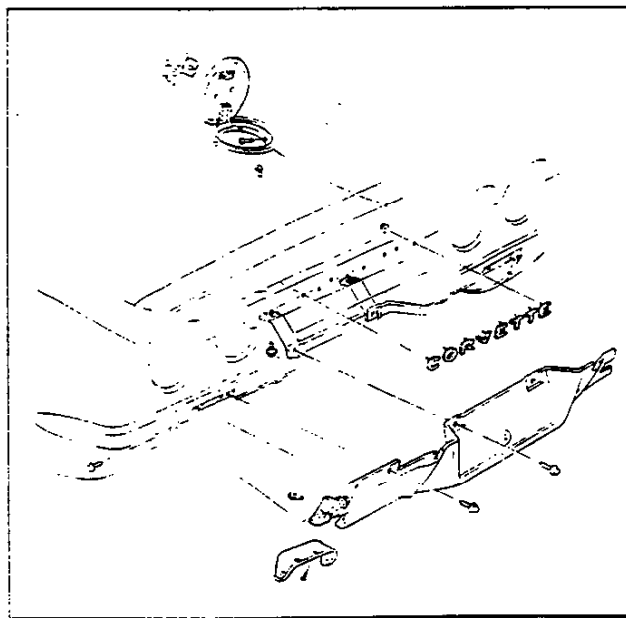

Fig. 44—Gas Tank Door and Rear Trim
Figure 44 illustrates installation details of gas tank door, letter trim, and tail pipe bezel.
**REAR FILLER PANEL (Fig. 44)**
3. Remove eight (8) mounting screws retaining filler panel to body and slide panel down.